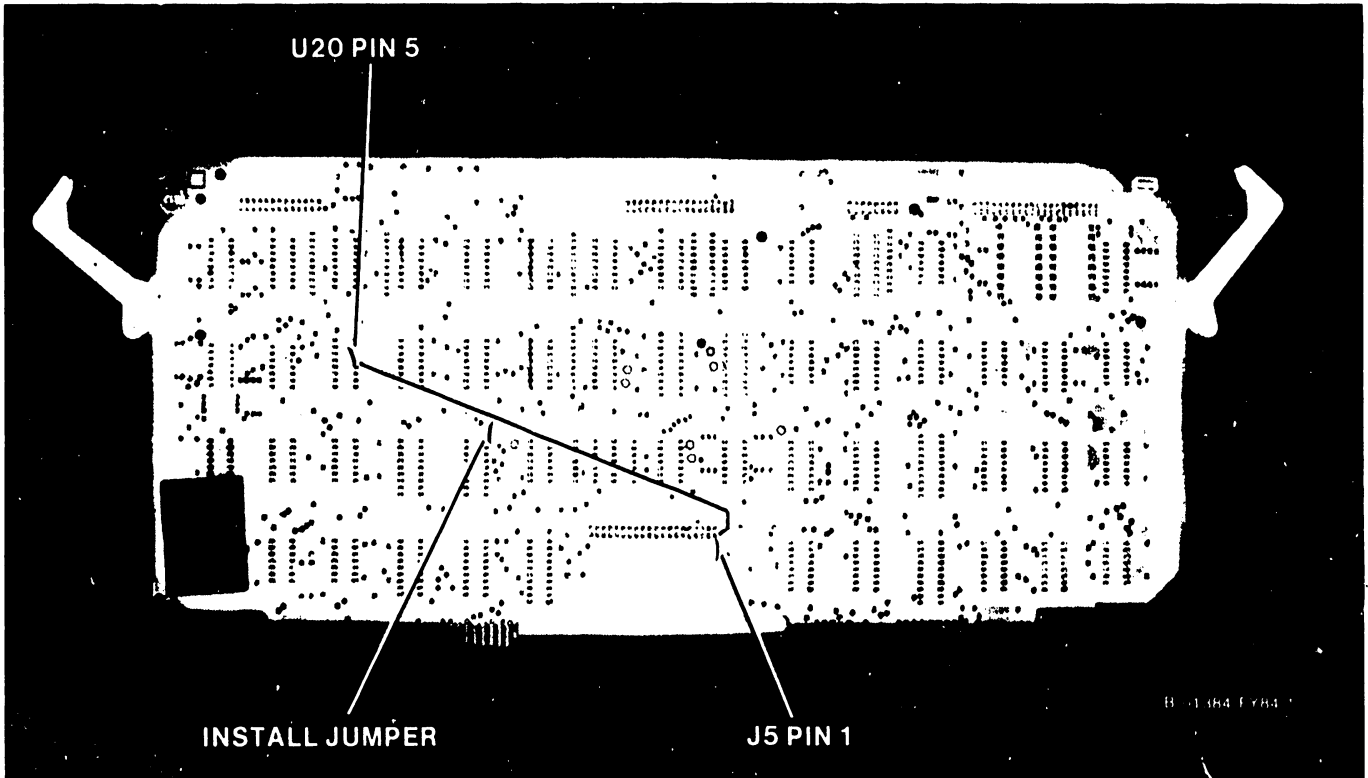

Figure 3 Jumper Installed on Dataproducts Interface Board
7. Solder a jumper between U20-5 and J5 pin 1 on the Interface board (see Figure 3). This jumper will not effect use of this PCB in any other serial or parallel band printer.